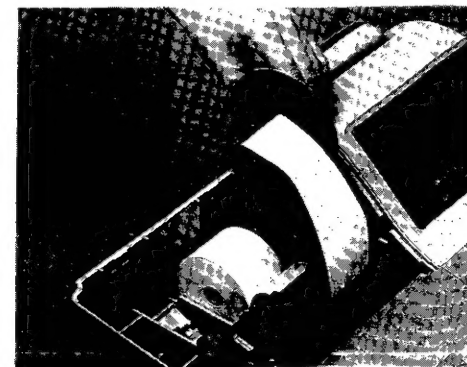

Fig 1-7.
3. Lift the take-up reel, and insert the leading end of the paper into the slit in the take-up reel (Fig. 1-7). Wind the paper two or three turns onto the reel.